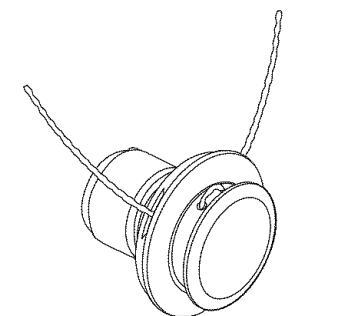

Fig. 13
3. Pull the ends of the line until the line bend is centered between the two insertion holes and firmly against the side of the cutting head (Fig. 13).